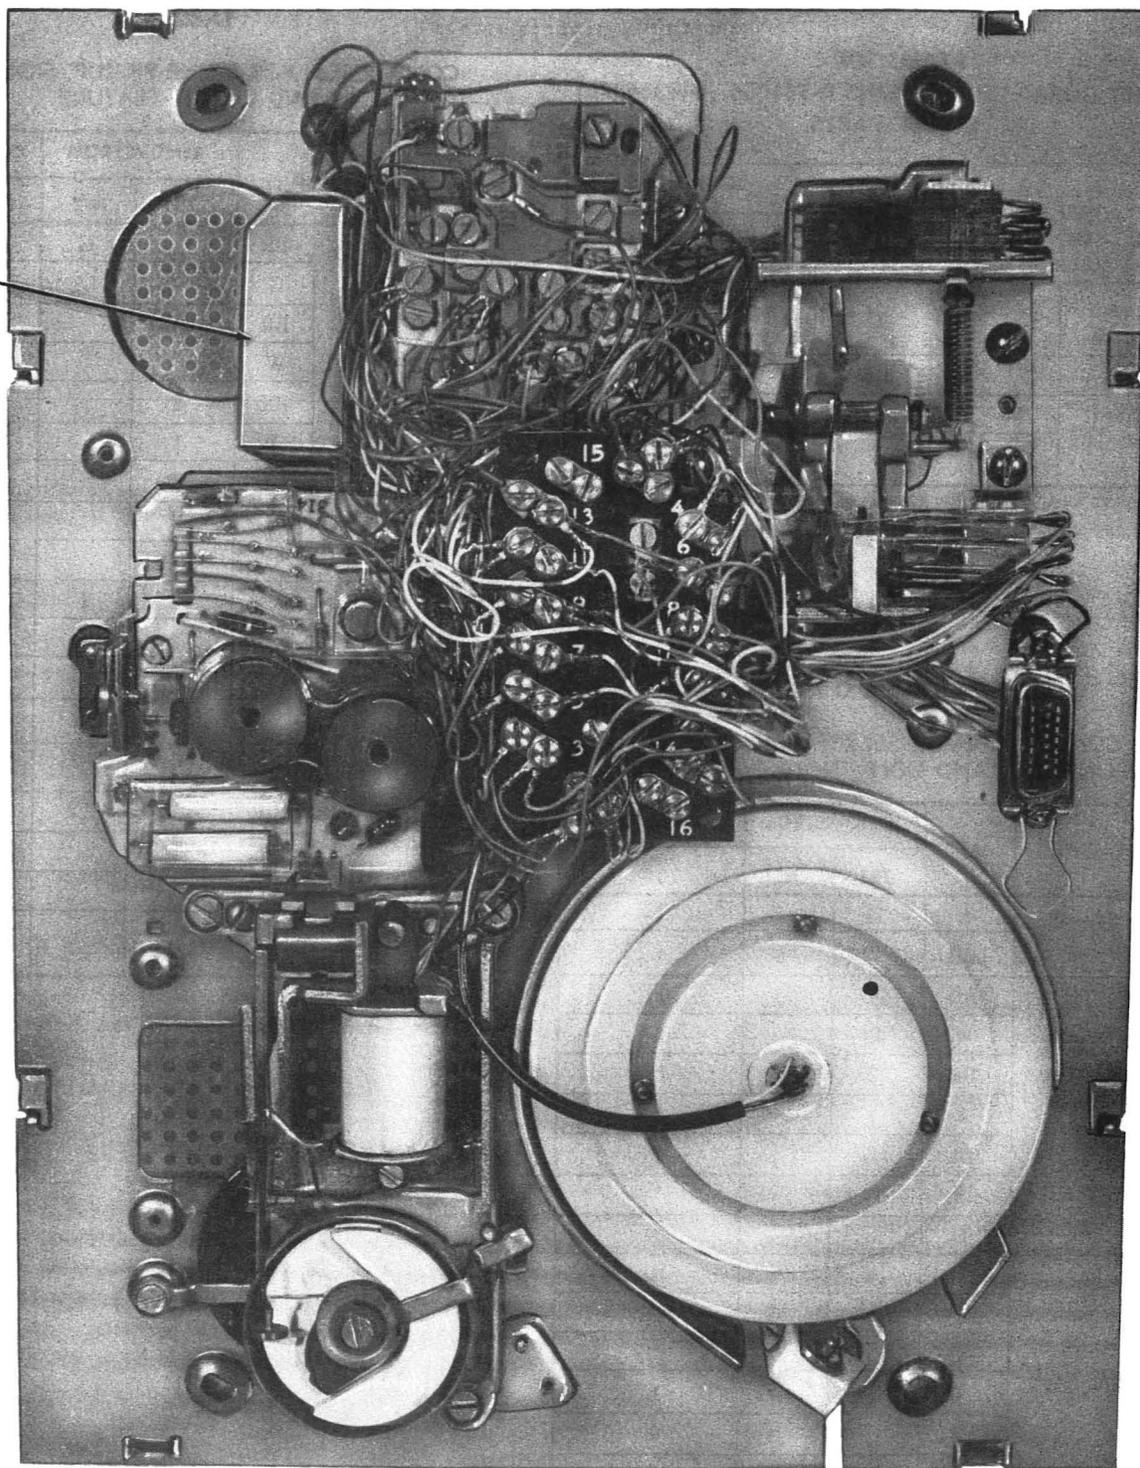

Fig. 3—Polarity Guard [D-181006 (840364376) Kit of Parts] Installed in 2751-Type Telephone Set
3.04 ♦An optional (D-181006 Kit of Parts) polarity guard (ordered separately) is available for use with the 2751C-58 (MD) or 2751D-50 (MD) set, or for field replacement in all 2751-type sets. It is intended for use when specified by local instructions for end-to-end signaling installations, refer to Fig. 3 and Table C for connections. The polarity guard has an adhesive backing for convenient placement.♦